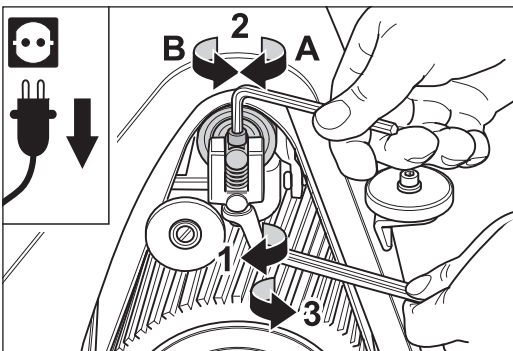

Fig. 79 Adjust the sanding belt tracking at the setting screw of the drive unit (see description on the right).
- 6 If readjustment of the tensioning roller is necessary, release the lock nut at the drive unit (Fig. 79, 1) and adjust the tensioning roller with the screw (Fig. 79, 2):
- 7 If the sanding belt tracking is seen to be correct after adjusting once, tighten the lock nut again (Fig. 79, 3).